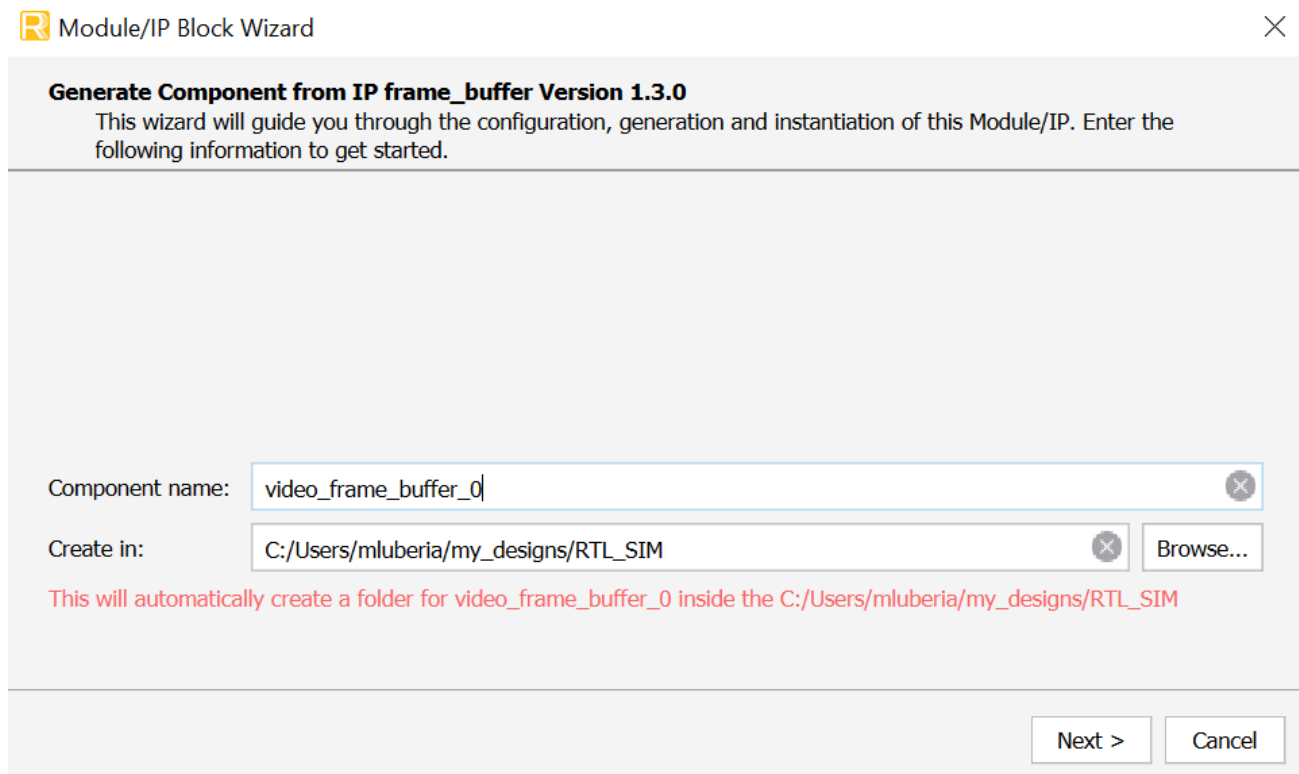

Figure 6.1. Module/IP Block Wizard
2. In the **IP Catalog** tab, double-click on **Video Frame Buffer** under **IP, DSP** category. The **Module/IP Block Wizard** opens as shown in Figure 6.1.
6. Click the **Finish** button. All the generated files are placed under the directory paths in the **Create in** and the **Component name** fields shown in Figure 6.1.